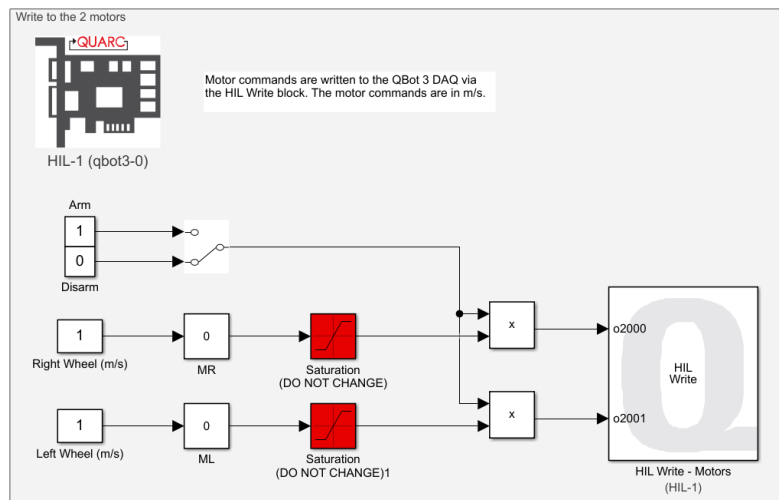

Figure 1: Write_Motors.slx model
1. Under the Guides and Resources > Basic IO > QBot 3 > Software folder, open Write_Motors.mdl (Figure 1)
7. Double click on the slider gains labeled MR and ML and slide them between -0.7 and 0.7 m/s to change each motor's speed. These values are written to the QBot 3's motors via the HIL Write Block, where the channels are configured in the HIL Initialize block (Figure 1).